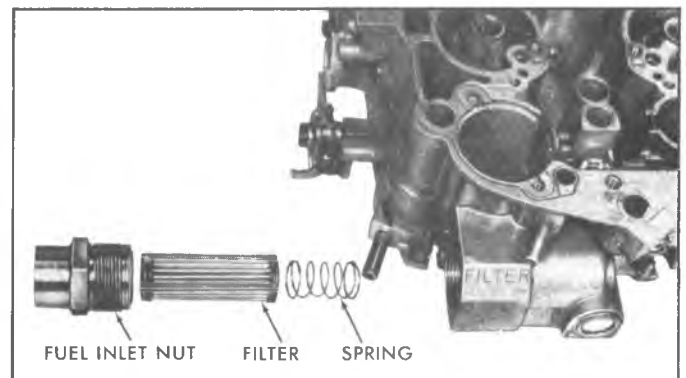

Fig. 17MQ—Fuel Filter
- Remove fuel inlet nut, gasket and filter (Fig. 17MQ).
4. Install fuel inlet filter spring, filter, new gasket and inlet nut and tighten nut securely (18 ft. lbs.) (Fig. 17MQ).